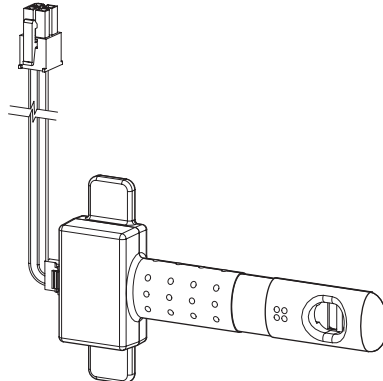

Fig. 1. Airflow Switch.
**FH8000A** – These models are designed for use with an air handler and are equipped with an airflow switch (see Fig. 1), which provides power only when the air handler blower is operating. These models are designed to be powered from a 208 to 230 VAC single phase power source.